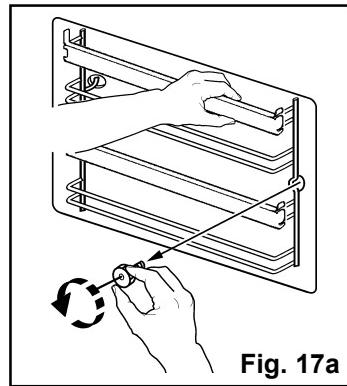

Fig. 17a
1. remove the front screw while keeping the shelf support in position with the other hand (Fig. 17a);